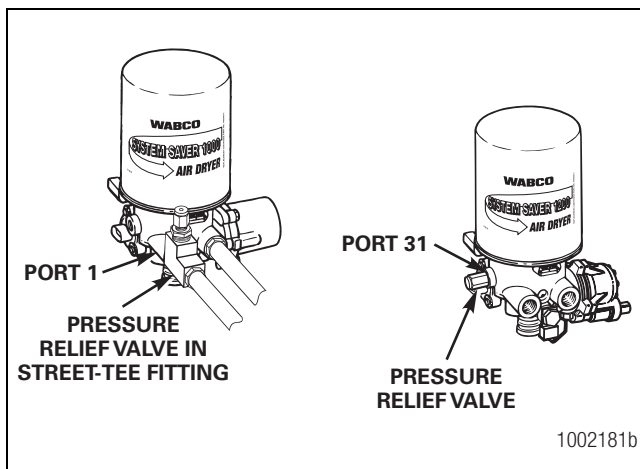

Figure 2.21
If your dryer uses a bypass valve (date code of 2295 or earlier), the pressure relief valve will be installed with a Street-Tee fitting at the front (Port 1) of the dryer. On dryers with date codes later than 2295, the pressure relief valve is located at the side of the dryer (Port 31). Figure 2.21.
2. Unscrew and remove the old pressure relief valve. Figure 2.21.